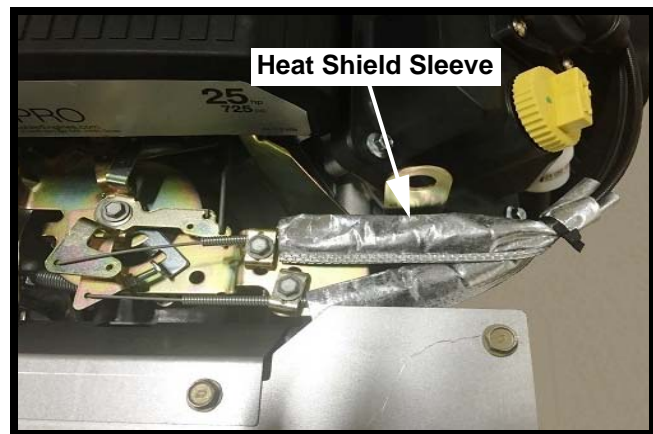

FIGURE 2
3. If the part number on the throttle cable is **746-04771A** and the part number on the choke cable is **746-04759A** and the cables are covered with a heat shield sleeve, see Figure 2. No further action is required.